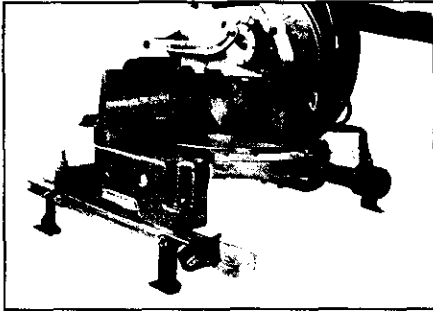

Figure 12
16. Carefully lift the saw up and place onto the aluminum extrusion, passing the T-mounting bolts installed in Step 15 through the mounting holes in the base of the miter saw. Figure 12.
17. Secure the saw in place on the aluminum extrusion with (1) 5/16" flat washer, (1) 5/16" lock washer, and (1) 5/16" hex nut per T-mounting bolt. Hand tighten only.